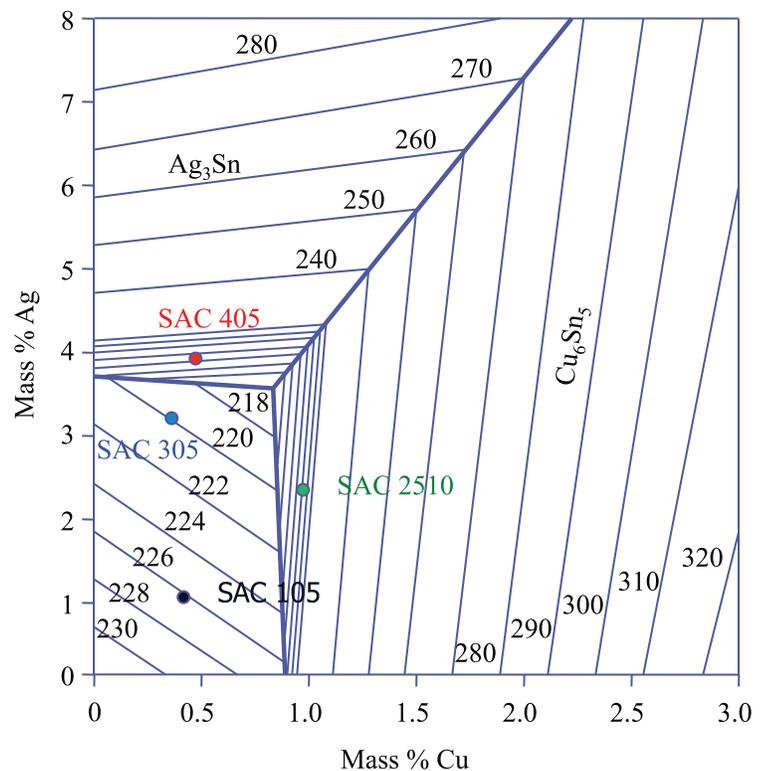

Figure 2. Ternary Phase Diagram for Tin-Silver-Copper
leads to higher polishing pressures in recessed areas and is especially true in the middle of wide exposed regions. There is a strong dependence on pattern density, which makes this problem worse for lower density areas and for large linewidths. The solutions include minimizing the over-polish time to optimize thickness uniformity, removal rate uniformity, and to optimize endpoint detection. If these solutions are not working, then the layout engineers may need to add CMP dummy features to the chips to address pattern density problems. In figure 2 we show the dishing effect in copper metallization. Since the copper is softer, it forms a concave structure in regions where the copper deposition is wide, leading to artifacts in the trenches, like we show in the bottom portion of the graphic. Some additional solutions include using stiffer polishing pads, reducing the down force or pad pressure, moving to an abrasive-free polishing process, switching to electrochemical mechanical polishing, using a non-selective slurry for the tantalum liner film and overpolishing, or moving to linear polishing tools with harder pads that can achieve the same removal rate but at reduced pad pressure.
Figure 2. Origin of the dishing effect in CMP (top) polishing pad flexes into trench opening; (middle) formation or concave surface; (bottom) trench area remains “dishes” after CMP.
Tin by itself can be etched with a 5:100 ratio of Nitric Acid (HNO_3) and Methanol (CH_3OH), and silver by itself can be etched in a 5:2 ratio of Ammonium Hydroxide (NH_4OH) and Hydrogen Peroxide (H_2O_2). However, we note that tin is the primary constituent in a SAC solder, comprising 95+% of the alloy, and SAC 305 and 405 solders do not develop bulk phases with copper (see Figure 2). Therefore, it is easiest to develop an etch solution based primarily from Nitric Acid and Methanol. Some engineers will add Hydrofluoric Acid (HF) and/or Water (H_2O) in place of the Methanol to help clean the bond pad site. One should not use Hydrogen Peroxide (H_2O_2) in the etch formulation as it will attack the titanium in the Under Bump Metallization (UBM) to some degree. For more details on etching devices with lead-free solder bumps, we encourage the reader to review "Wet Etch Recipe Development for Removing Lead-Free C4 Bumps," [1] which was presented at the 2009 IPFA Conference.